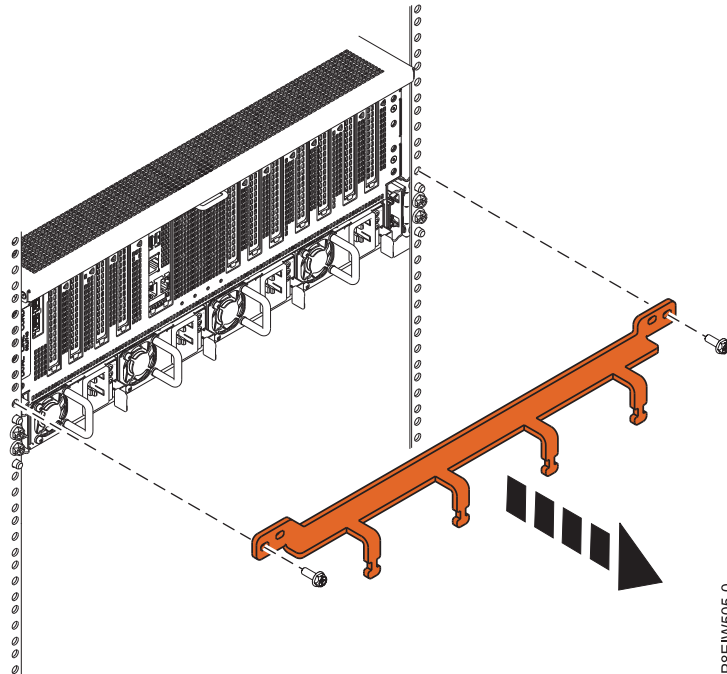

Figure 21. Removing the shipping bracket
1. Remove the two screws that secure the shipping bracket to the chassis, as shown in Figure 21. Store the shipping bracket if you want to move your system at a later date.